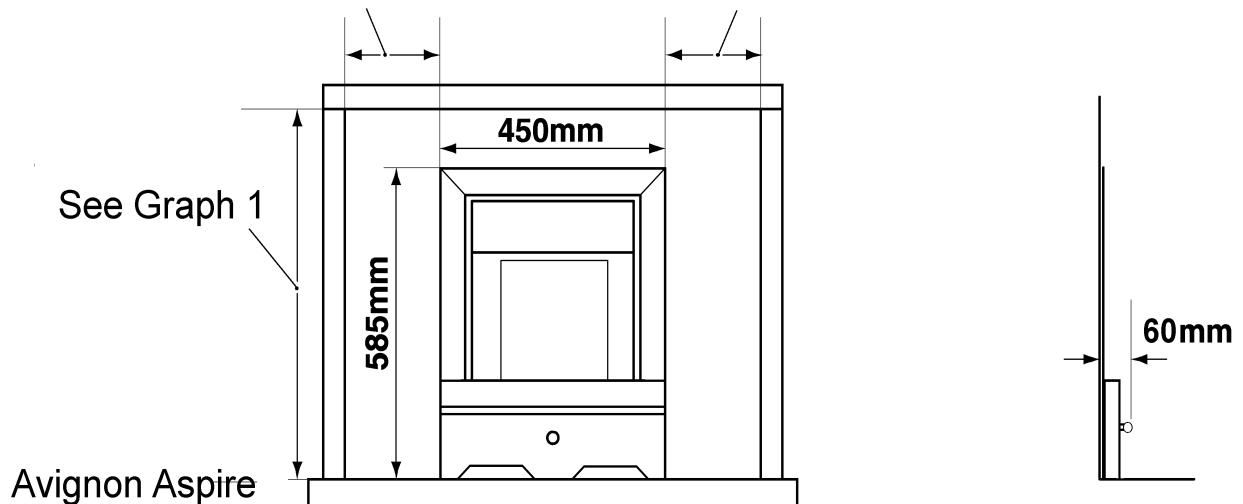

Figure 1. Appliance dimensions
- Provide a minimum clearance of 100mm from the outside of the fire case to any corner wall or other combustible surface that projects beyond the front of the appliance. Please bear this in mind if ever you are altering the room (See figure 1)